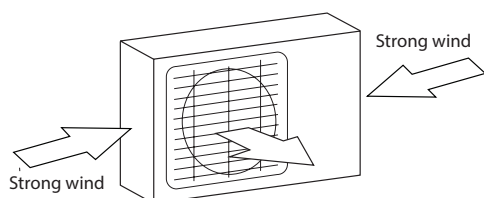

Fig. 4.1
- ☑ If the location is exposed to strong winds (for example: near a seaside), the unit must be placed against the wall to shelter it from the wind. If necessary, use an awning. (See Fig. 4.1 & 4.2)